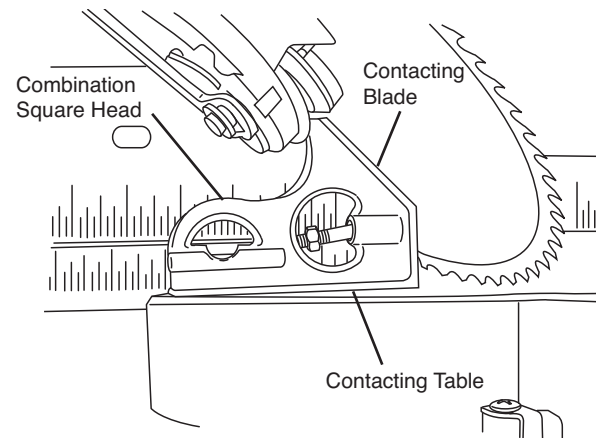

Figure 24
1. Hold the saw head assembly down and push in the head assembly lock pin (item 43 – page 12) to keep the saw in the DOWN position.
2. Slide the head assembly completely to the back and engage the lock lever (item 27 – page 12) by lifting up the finger tab.
7. Use a combination square to check that the blade is 45° to the table. Remove the rule blade from the combination square. Place only the combination square’s head on the saw’s table with its long flat side resting on the table and its 45° side against the tilted blade (see Figure 24).
5. While turning bolt "F," watch the blade tilt – turn "F" until the saw blade plate is in full contact with the 45° side of the square's head (see Figure 24).
6. If needed, adjust bevel scale pointers (item 36 – page 12) to be in line with the bevel scale's 45° lines. First, adjust right bevel pointer; then tilt saw head to the right 45° stop position (see page 45 – "Bevel Range 2 = 0-45° Right") and adjust the left bevel pointer. Tilt the saw head to the 0° position – both pointers should be on the bevel scale's 0° lines.